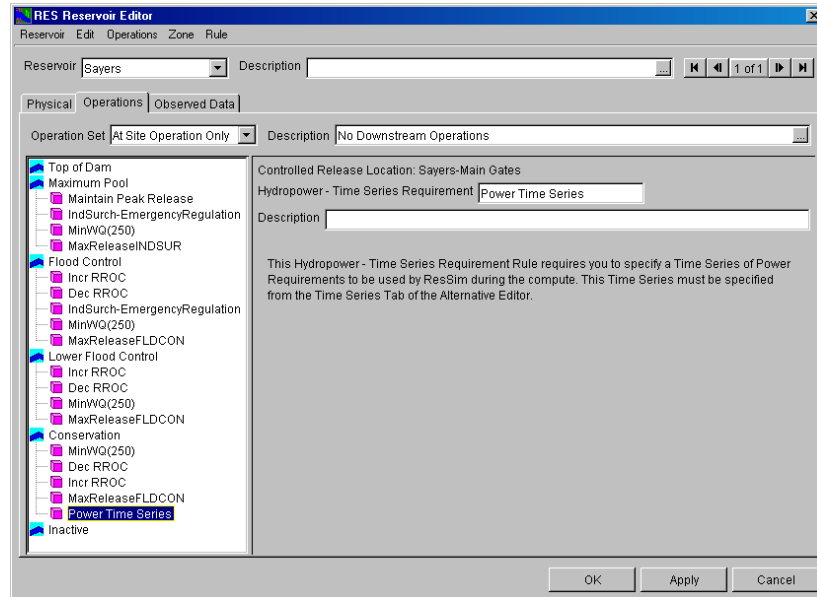

Figure 11.29 Hydropower – Time Series Requirement Rule Editor
- Highlight the appropriate rule in the operations tree to access the **Hydropower – Time Series Requirement** rule editor (Figure 11.29). The name and description of the rule will appear in the **Hydropower – Time Series Requirement** rule and **Description** fields.